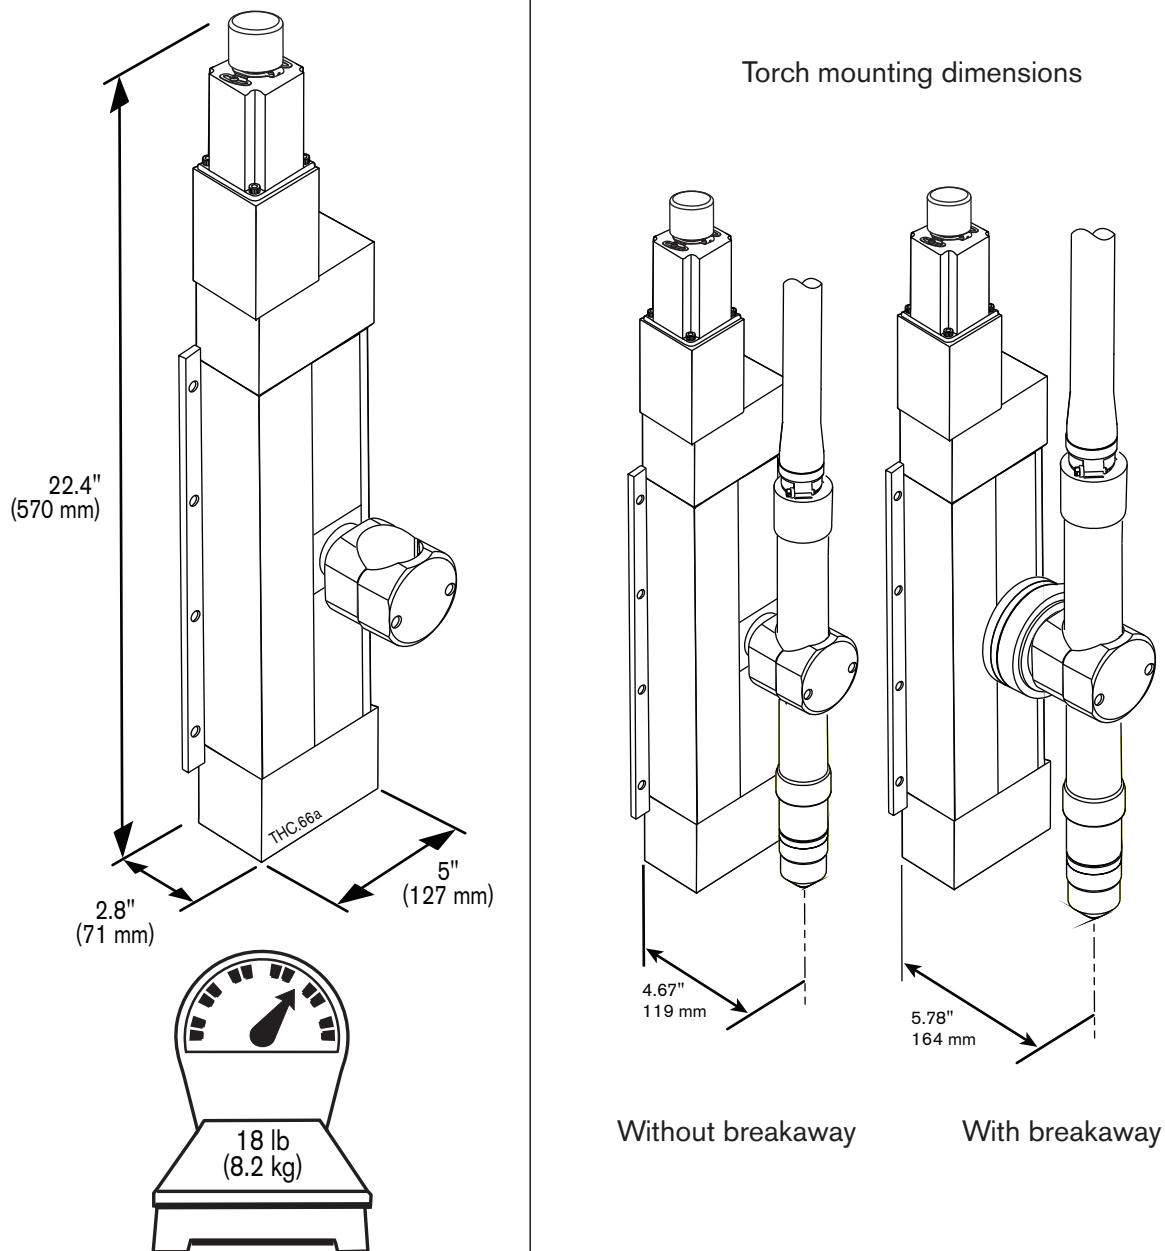
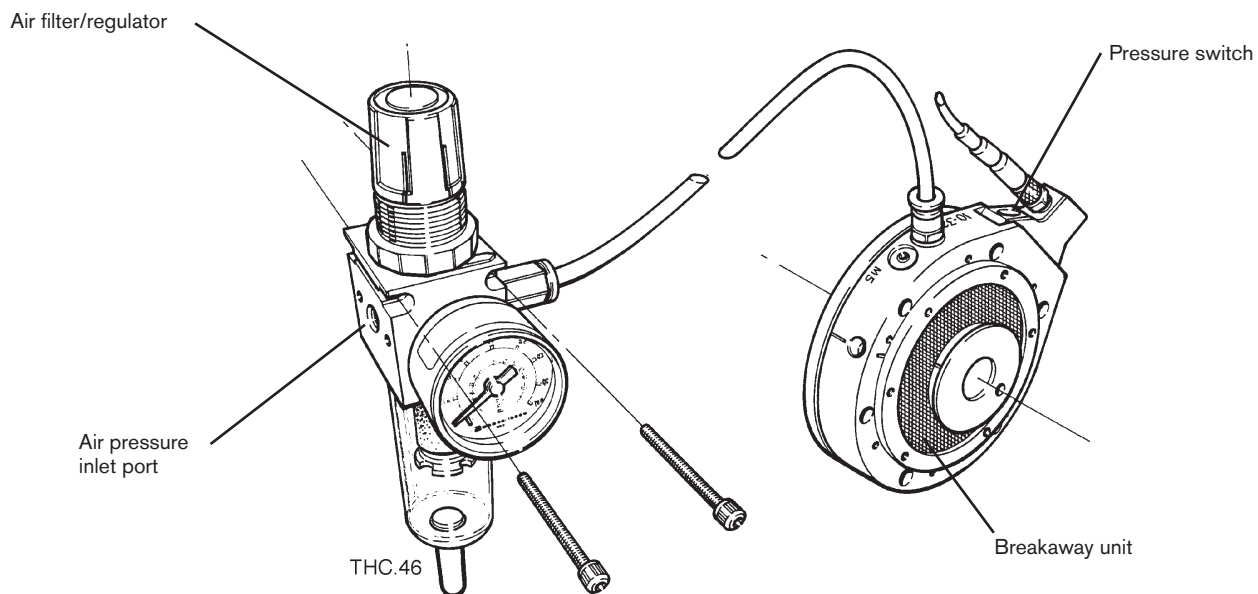

Figure 2-4 X-Y lifter assembly
Figure 2-6 X-Y lifter breakaway option
- **X-Y lifter assembly** (Figure 2-4) The torch lifter station, under control of the THC control module, positions a torch head vertically above the workpiece. Its maximum stroke is 8 inches (200 mm) between the home and lower limit switches. It is driven by a stepper motor attached to a leadscrew. An encoder is provided for stall IHS sensing, and to detect gross errors during normal operation. A lower limit switch detects maximum travel in the downward direction. A home switch is provided to detect when the lifter is in the uppermost position. A power-off brake is energized after power up, and allows controlled motion of the torch. It is powered off during "Maintenance Mode" to prevent the torch from being accidentally moved. An optional torch breakaway kit is also available.
- **Torch breakaway kit (optional)** (Figure 2-6) The torch breakaway (collision sensor) provides a level of protection for the torch, lifter and X-Y table. Air pressure locks the torch to the THC lifter assembly. The air pressure can be adjusted to change the force required to trip the breakaway. Upon side impact, the breakaway releases from the lock position and allows the torch to float. See Figure 2-4 for torch mounting dimensions with and with out the breakaway.